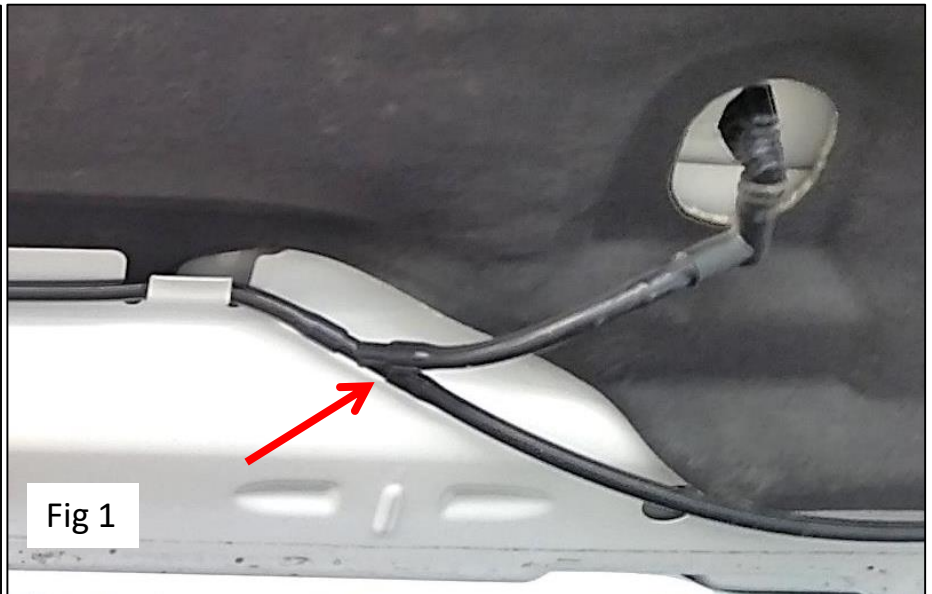

Fig 1
Step 3: Disconnect the main feed window washer fluid tube at the Y connector(for 2013+) or at the nozzle(07-12). Fig 1